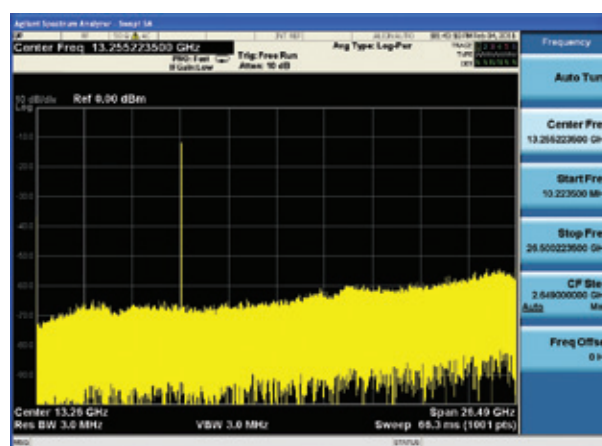

Figure 1
4. Set the signal generator's step frequency to 1 GHz and quickly step through the frequencies in 1 GHz increments to the max frequency of the spectrum analyzer looking for any holes (Figure 1). The signal won't be exact because the span is set to max, but signal level should be within reason.